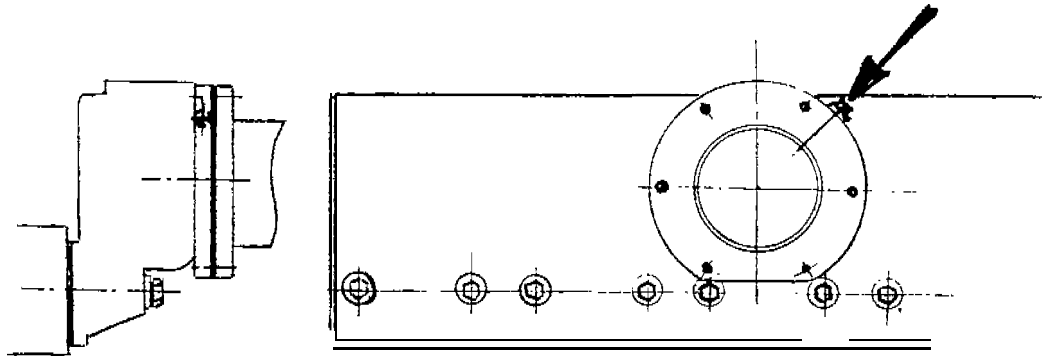

Figure 14, Location of Exhaust System Back Pressure Test Port
26. () Connect a manometer or magnehelic to the test port in the exhaust manifold flange shown in Figure 14. Run the engine at full throttle, no load, with exhaust conditioner filled to normal operating water level. The exhaust backpressure does not exceed 34 inches of water.